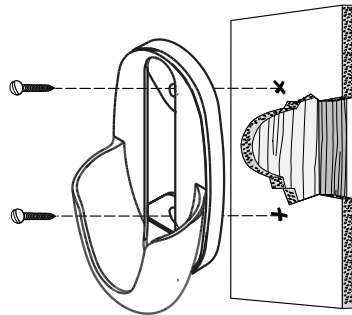

Figure 9f
2. Orient the remote cradle as shown in Figure 9f, over the 2x4 stud.